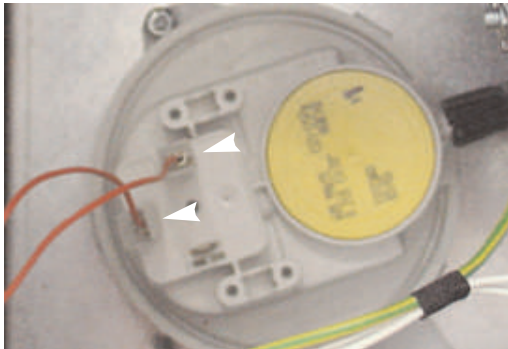

Fig. 61
2. Disconnect the wire connectors (see Fig. 61);